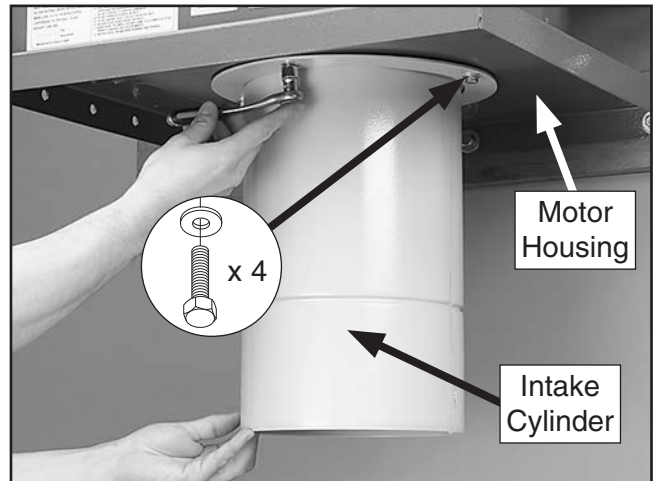

Figure 8. Attaching intake cylinder to bottom of motor housing.
3. Attach intake cylinder to bottom of housing, as shown in **Figure 8**, using (4) $\frac{5}{16}$ "-18 x $\frac{3}{4}$ " hex bolts and $\frac{5}{16}$ " flat washers.